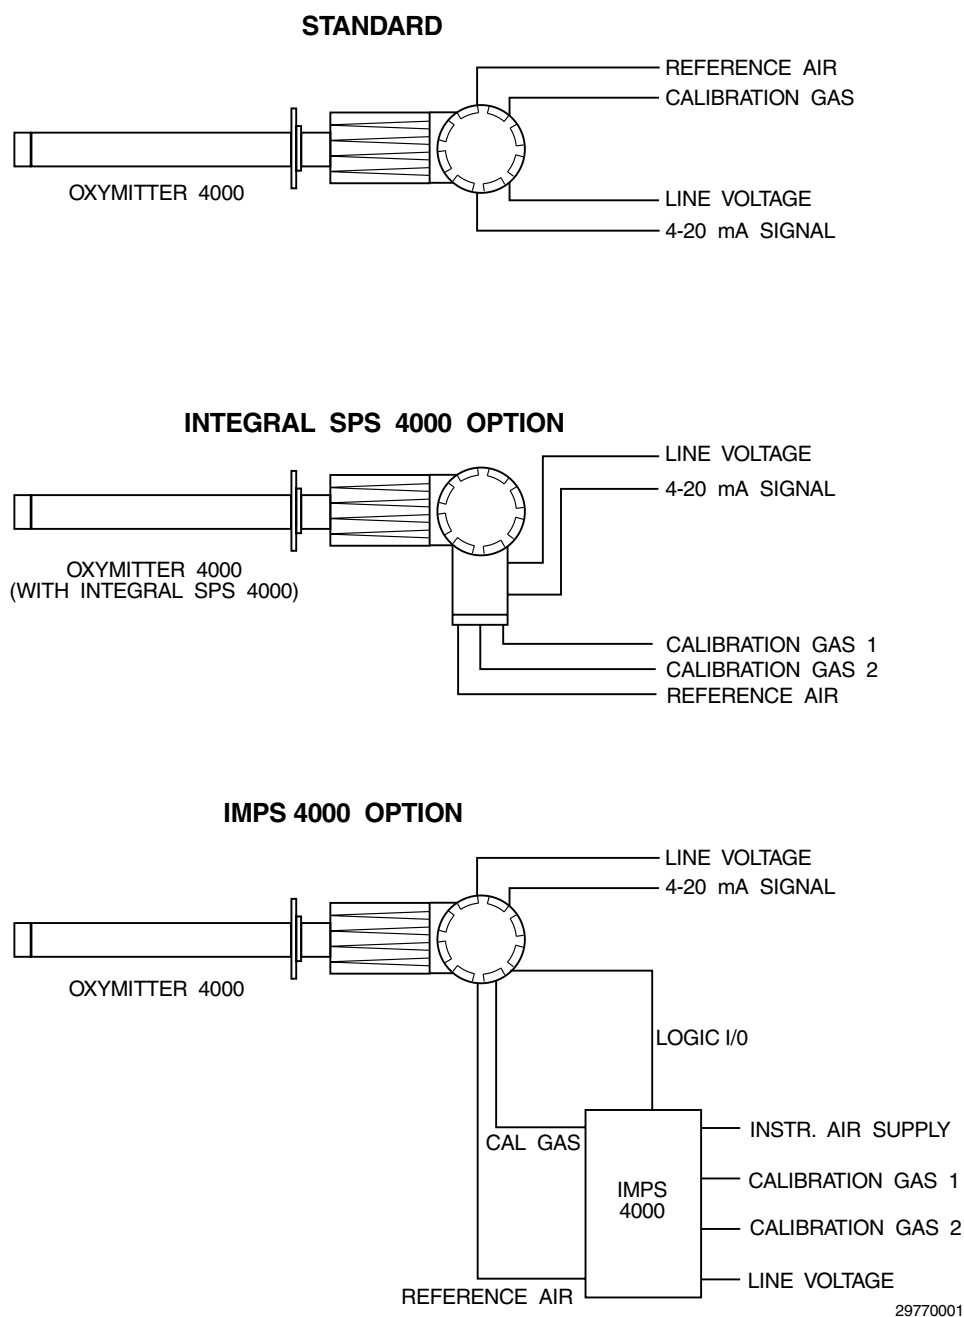

Figure 1. Oxymitter 4000 Installation Options
Use the following drawing, Figure 1, to identify which type of installation is required for your Oxymitter 4000 system.
1. Your system requires a STANDARD or INTEGRAL SPS 4000 OPTION installation. Installation options for the Oxymitter 4000 are shown in Figure 1.